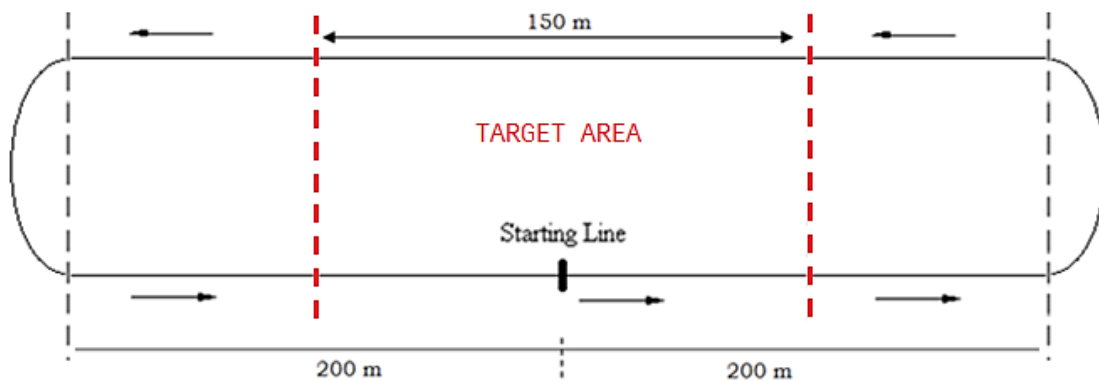

Figure 6. Flight pattern for Mission 3.
- 3 Lap payload flight. The flight pattern is given in Figure 6.